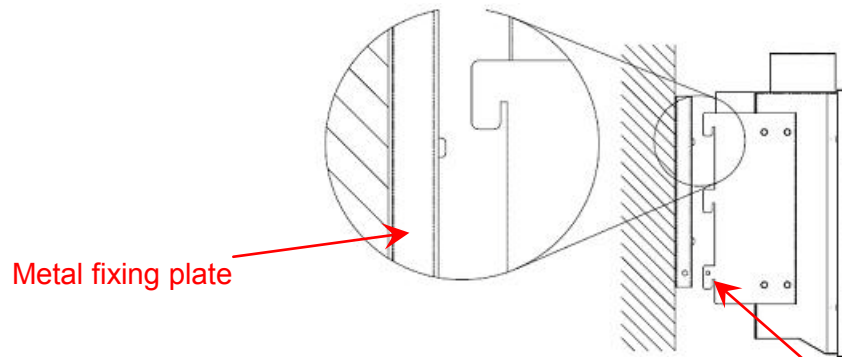

Fig. 2-3: Side view of the unit mounting to the wall
- ★ To secure the unit, fasten a screw on the hole at the left bottom hook of the unit, as in Fig 2-3.